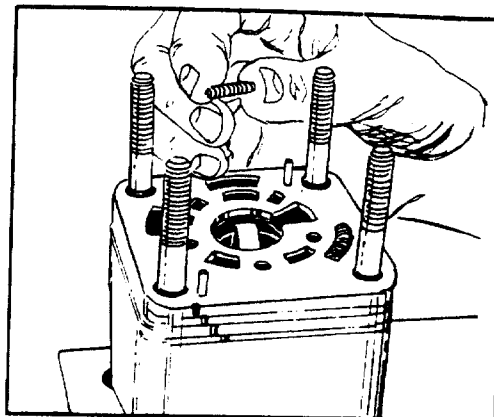

FIGURE 79.
31. Place the three 1/2 inch (13 mm) springs (14) into the spring pockets of the isolation manifold (15). See figure 79.